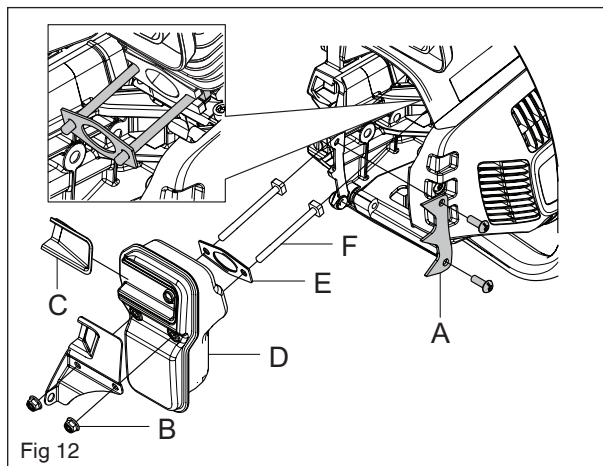

Fig 12
- 1 Use a heat gun to loosen the thread lock on the screws before you unscrew the two screws for the spike (A). Remove the spike. See figure 12.
- 2 Release the two nuts (B) and remove the heat deflector.
- 3 Remove the spark arrestor mesh (C).
- 4 Remove the muffler (D), the gasket (E) and the two screws (F).